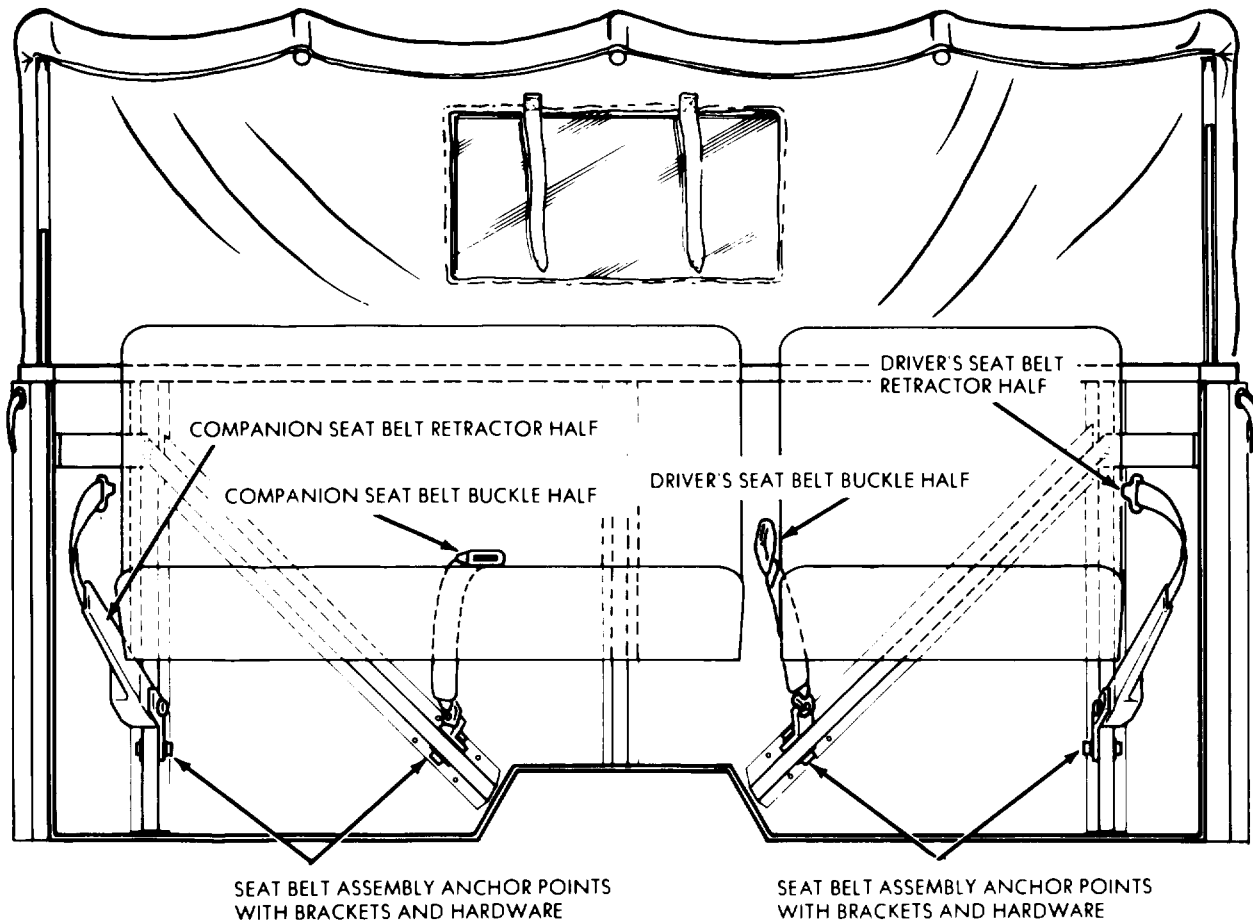

Figure 4. Fixed Driver's and Companion Seat
- a. When installed correctly, the seat belt modification to fixed driver's seat will appear as shown in figure 4.
- c. When installed correctly, seat belt modification to companion seat will appear as in figures 4 and 5.
f. Route center seat belt half between companion seat back and seat bottom as shown in figures 4 and 5.